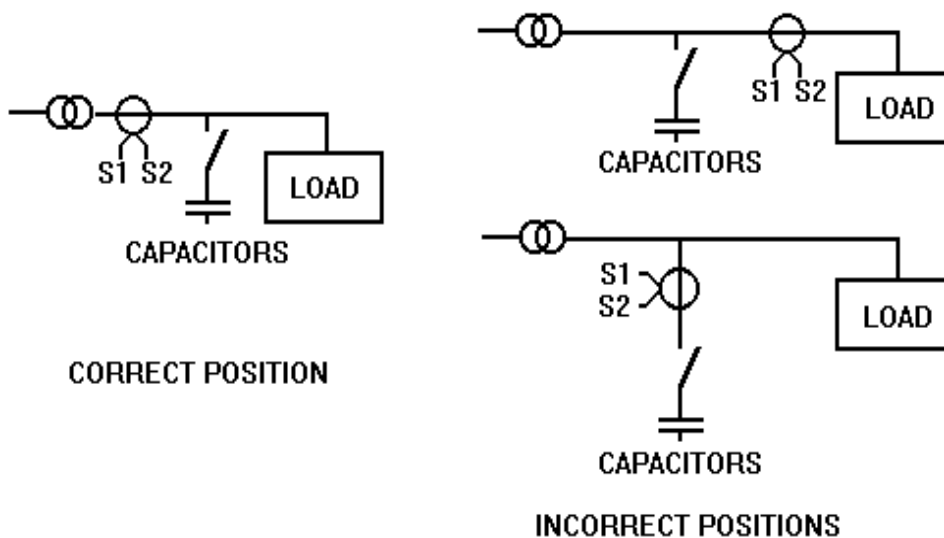

Figure 5.- Location of the current transformer (CT)
- Check the connections between the EM modules, the PF regulator (COMPUTER...f) and the current transformer (CT). For details concerning the regulator adjustment see the instructions manual of COMPUTER...f. See also the figure 5 showing the right location of CT in the installation.